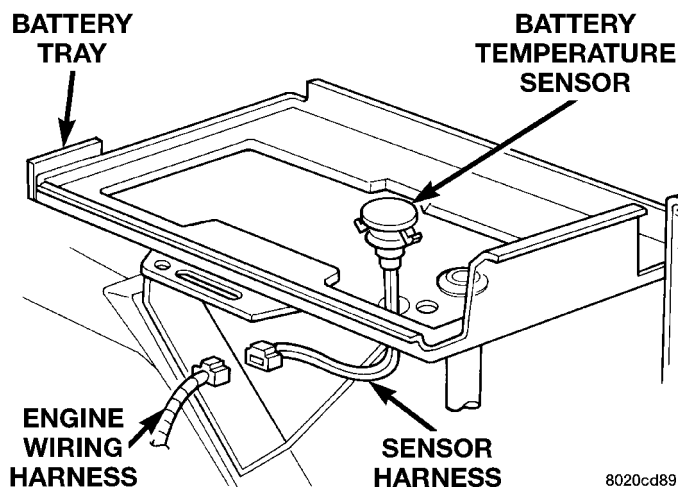

Fig. 6 Battery Temperature Sensor
(1) The sensor is located under the battery and is attached to the battery tray (Fig. 6). A two-wire pigtail harness is attached directly to the sensor. The opposite end of this harness connects the sensor to the engine wiring harness.